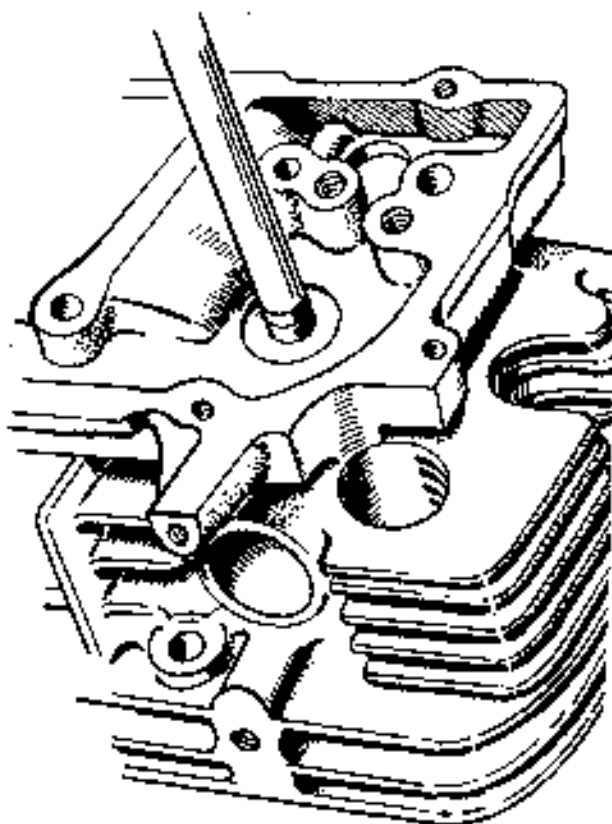

FIGURE 15-9. VALVE GUIDE REMOVAL
- Use a guide driver to remove the old guides, on J-series engines. Figure 15-9. On L-head engines, drive the guides out with a hammer and punch. On J-series engines; use a press to remove the guides.